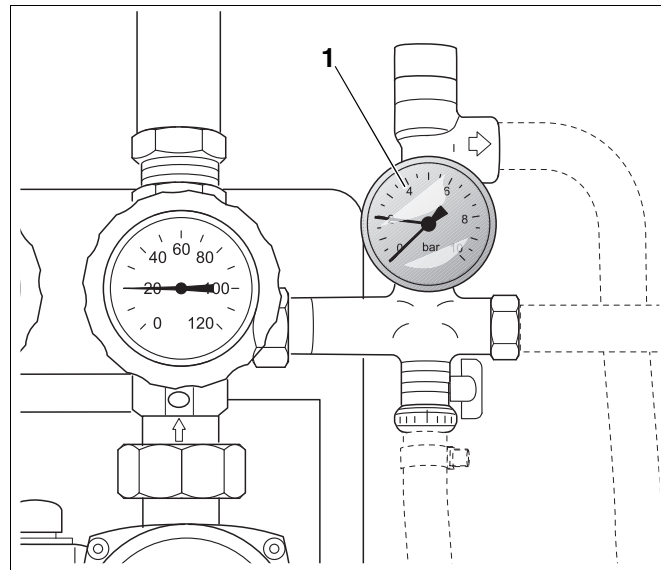

Fig. 16 Safety assembly with pressure gauge
- During the changeovers, check the pressure gauge indication (black needle, Fig. 16, **Item 1**) at the safety assembly.
The solar heating system contains air and must be vented more thoroughly, if the black needle of the pressure gauge (Fig. 16, **Item 1**) indicates pressure fluctuations when the circulation pump is switched ON and off.